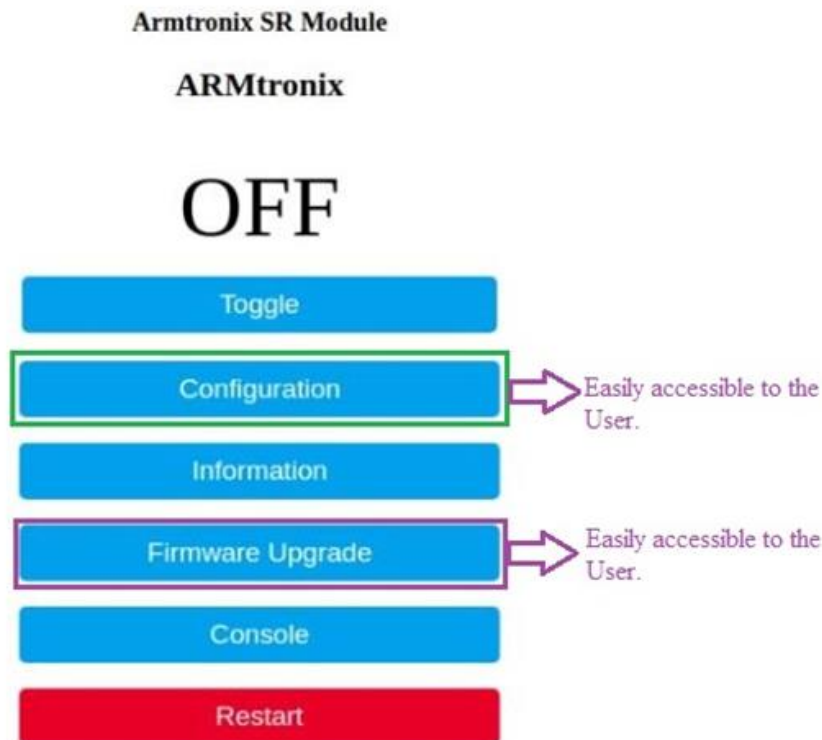

Figure 14: Main Menu
1. click on the Configuration option as shown in the figure 14,